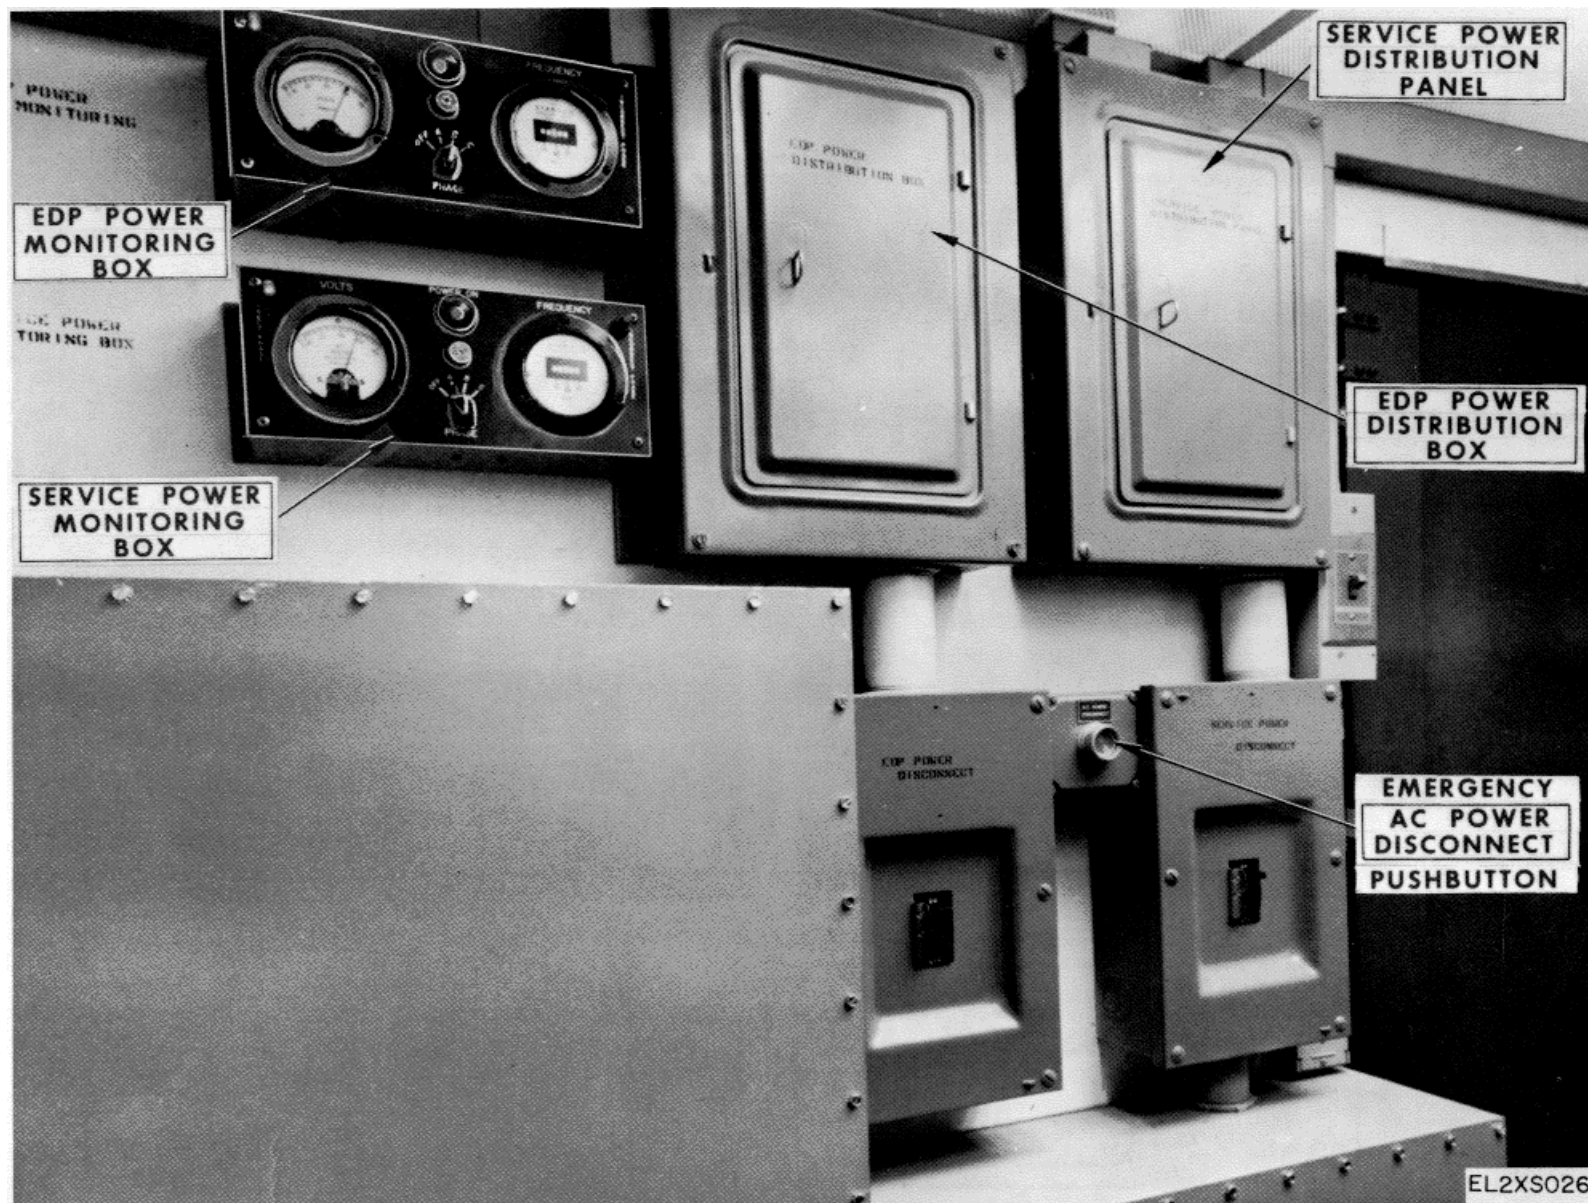

Figure 3-2. EDP POWER DISTRIBUTION BOX and SERVICE POWER DISTIRBUTION PANEL for OL-88(v)3/MYK-8(V).
b. Figure 3-2 illustrates the EDP POWER DISTRIBUTION BOX and SERVICE POWER DISTRIBUTION PANEL for OL-88 (V) 3/MYK-8(V).